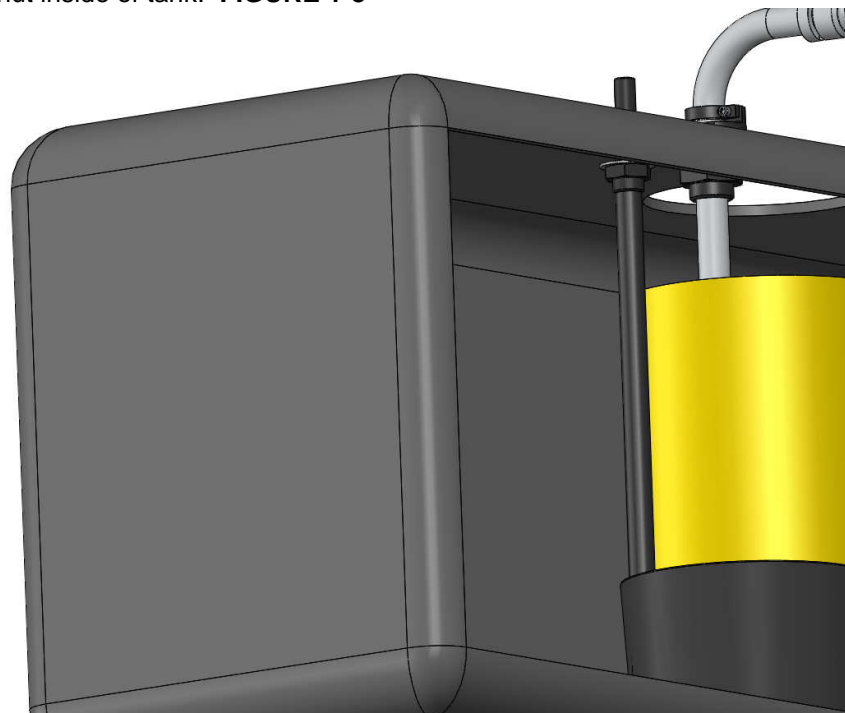

FIGURE 1-8
- As you are inserting the return tube into the tank, guide the tube in between the black rubber basket and yellow foam. Once installed, tighten lock nut inside of tank. **FIGURE 1-8**